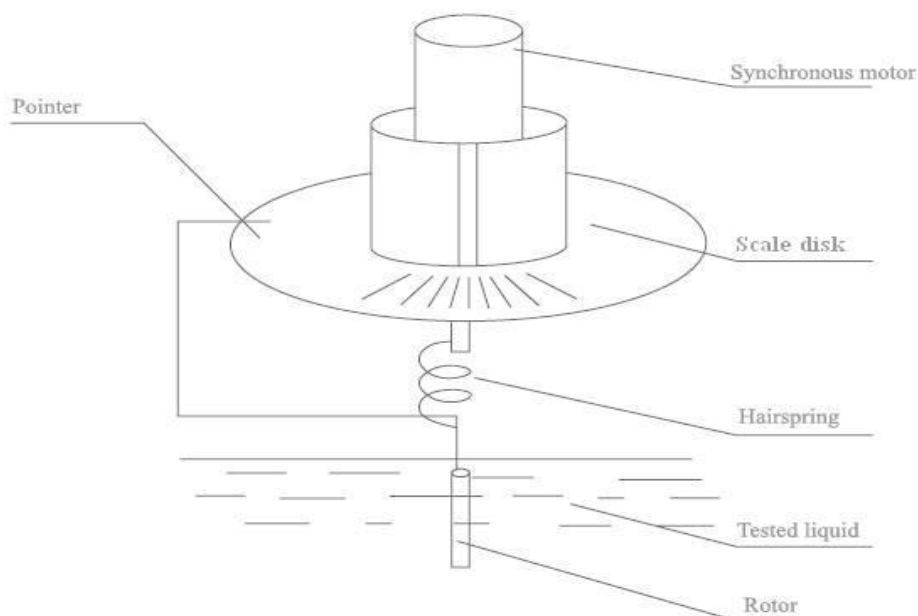

Figure 1
1) (Figure 1) Synchronous motor rotates with stable rate, connect scale disk, through hairspring and rotating shaft, drives rotors to rotate. The rotors will subject to a torque moment proportional to liquid viscosity because of the liquid viscose hysteresis. The torque moment will be measured by the sensors and processed into the viscosity and shown on the display.